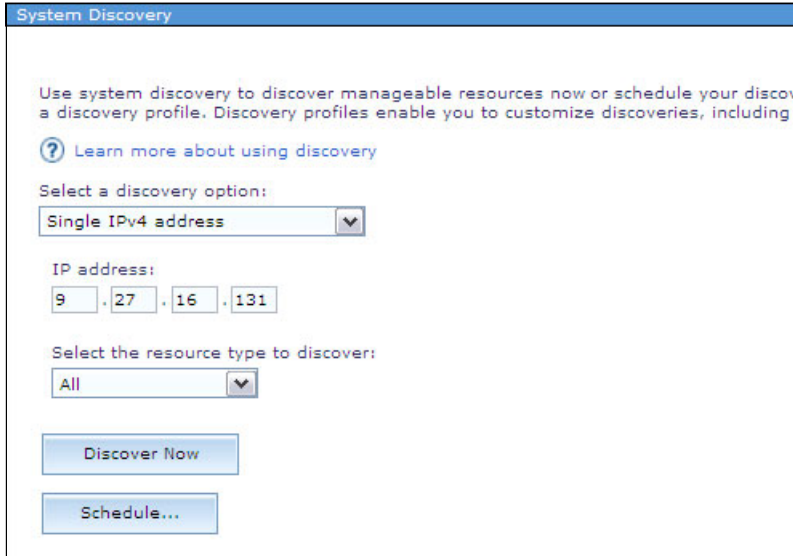

Figure 10-38 Discovering the NIM server
3. Discover the NIM server by using its IP address, as shown in Figure 10-38.